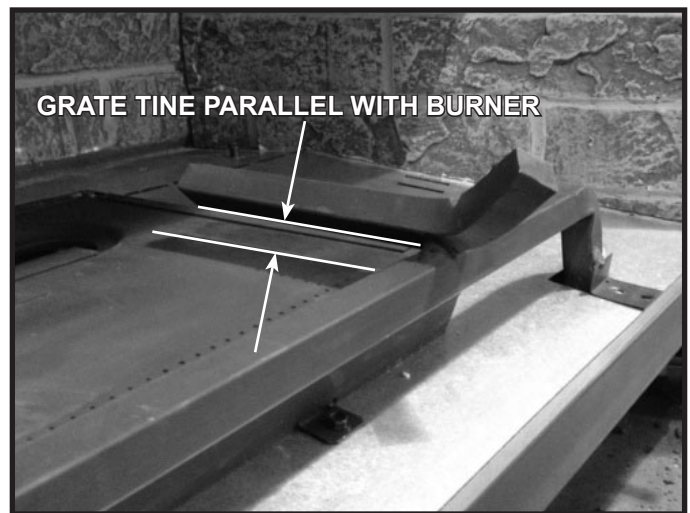

Figure 11.2 Grate Tine Parallel to Burner
- Inspect the grate prior to installing the embers, logs and lava rock. The grate tine on the right hand side should be parallel to the burner. See Figure 11.2. If the grate is not parallel to the burner, contact your dealer.